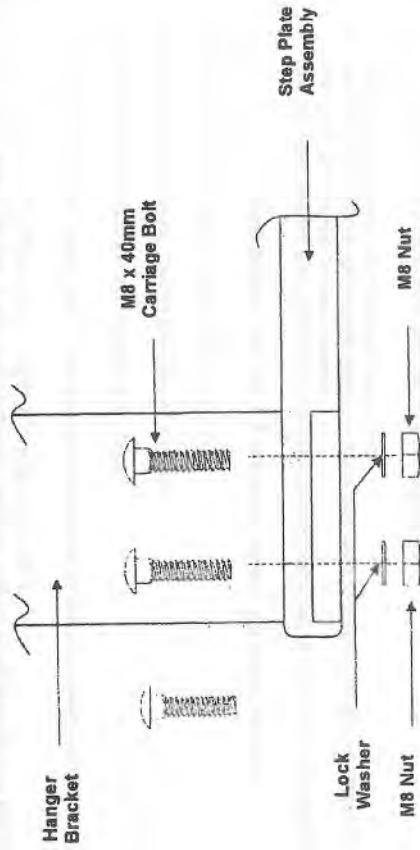

Figure 1
1. Assemble the Hanger Bracket on top of the Step Plate Assembly as shown in Figure 1.